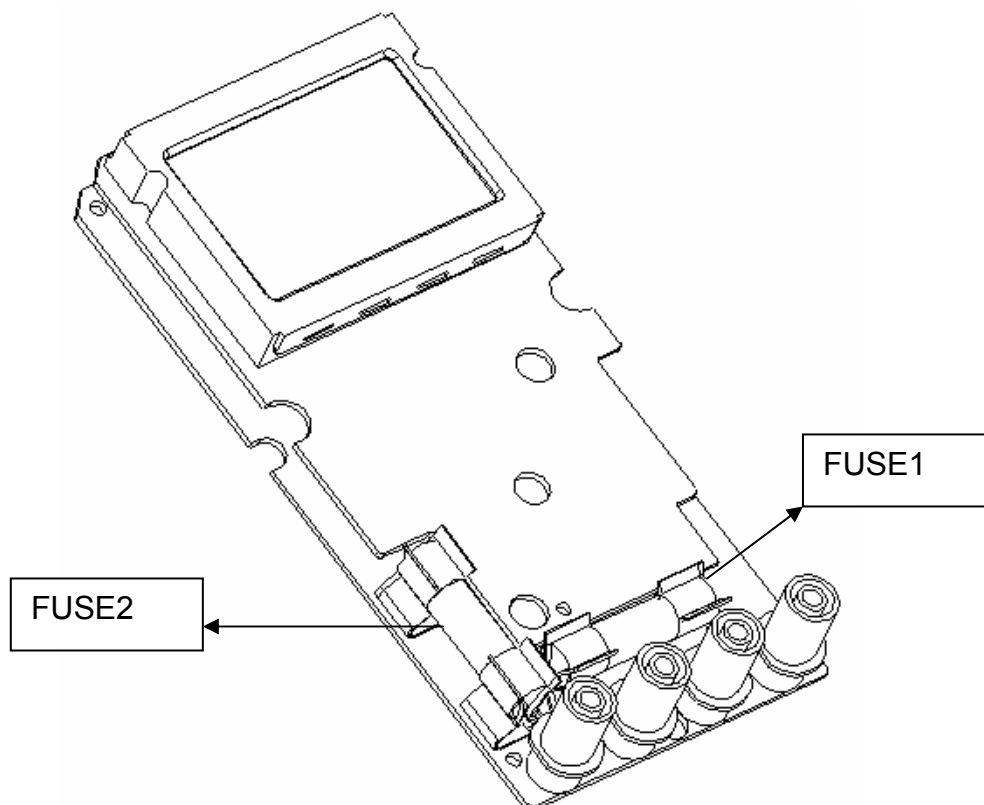

Figure- 65. Fuse replacement.
4. Lift the circuit board as shown in **Figure-65**.